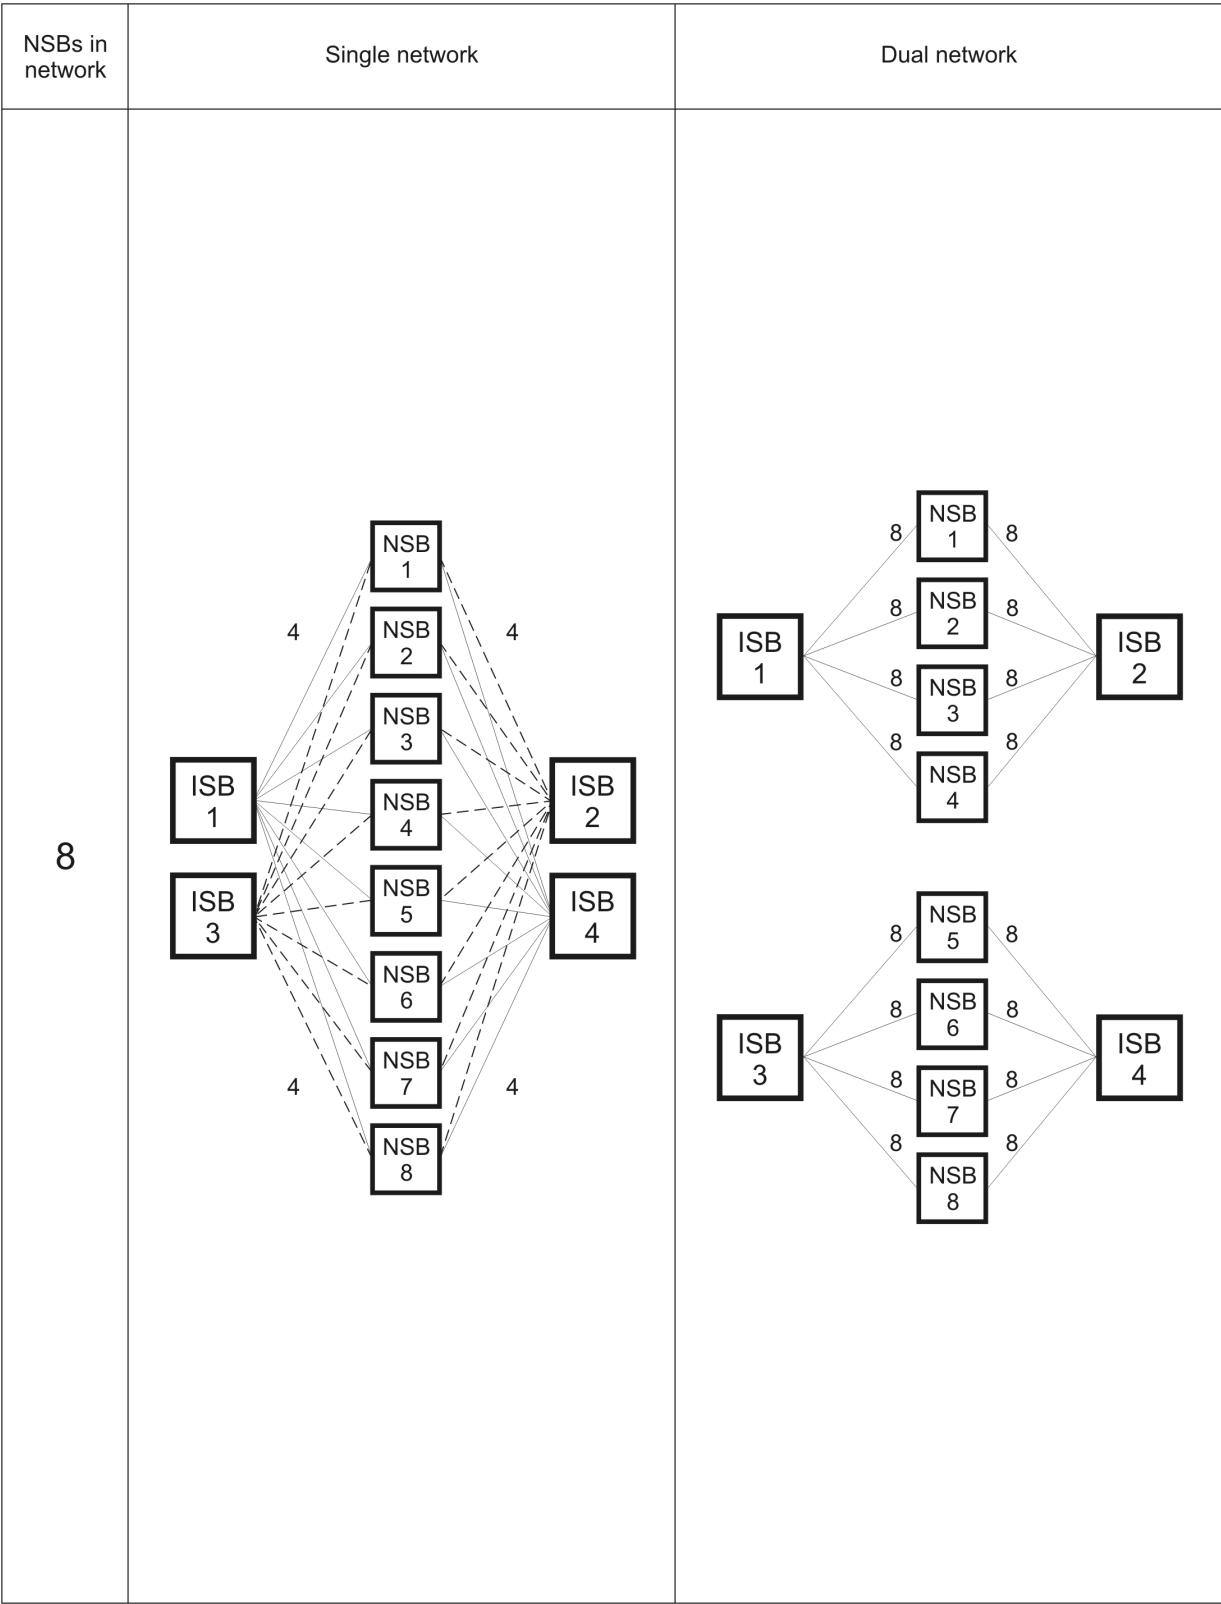

Figure 72. Switch cable paths for networks with eight NSBs and four ISBs
- Figure 72 on page 345 shows the cable differences for networks having a total of eight NSBs in the system